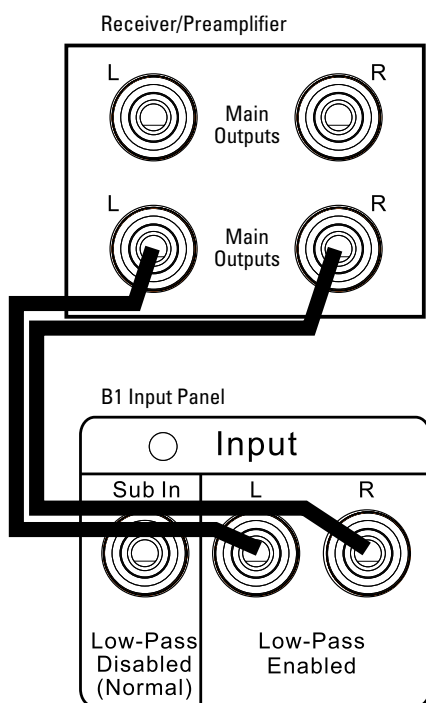

Figure 10: Connection to main outputs
1. Connect an RCA patch cable between the left main output on the receiver/preamplifier to the L(left) Low-Pass Enabled connector on the B1 rear panel, as shown in Figure 10.